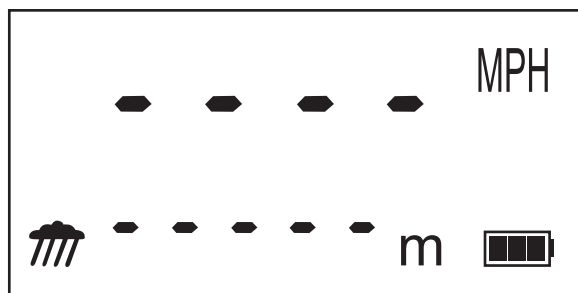

Figure 16
2. Press the  button. The display should look similar to Figure 16.